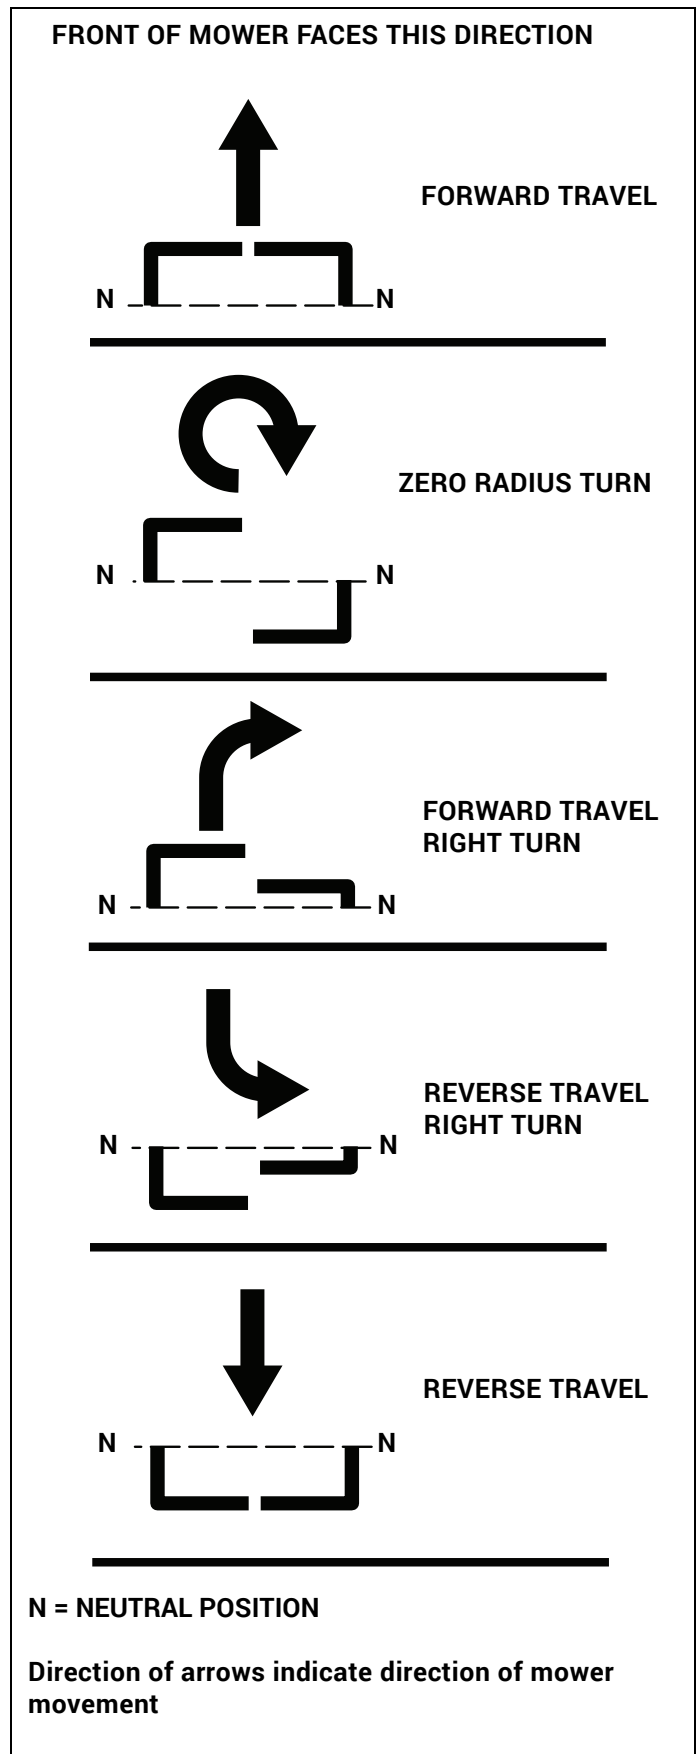

Figure 3-8
**To go forward**, push the steering control levers forward an equal distance. Figure 3-8
**To go in reverse**, pull the steering control levers rearward an equal distance. Figure 3-8
**To turn right**, move the left steering control lever farther forward from neutral than the right steering control lever. Figure 3-8
**Zero radius turn**, move one steering control lever forward and the other steering control lever back of neutral. This allows the drive wheels to counter-rotate. Figure 3-8